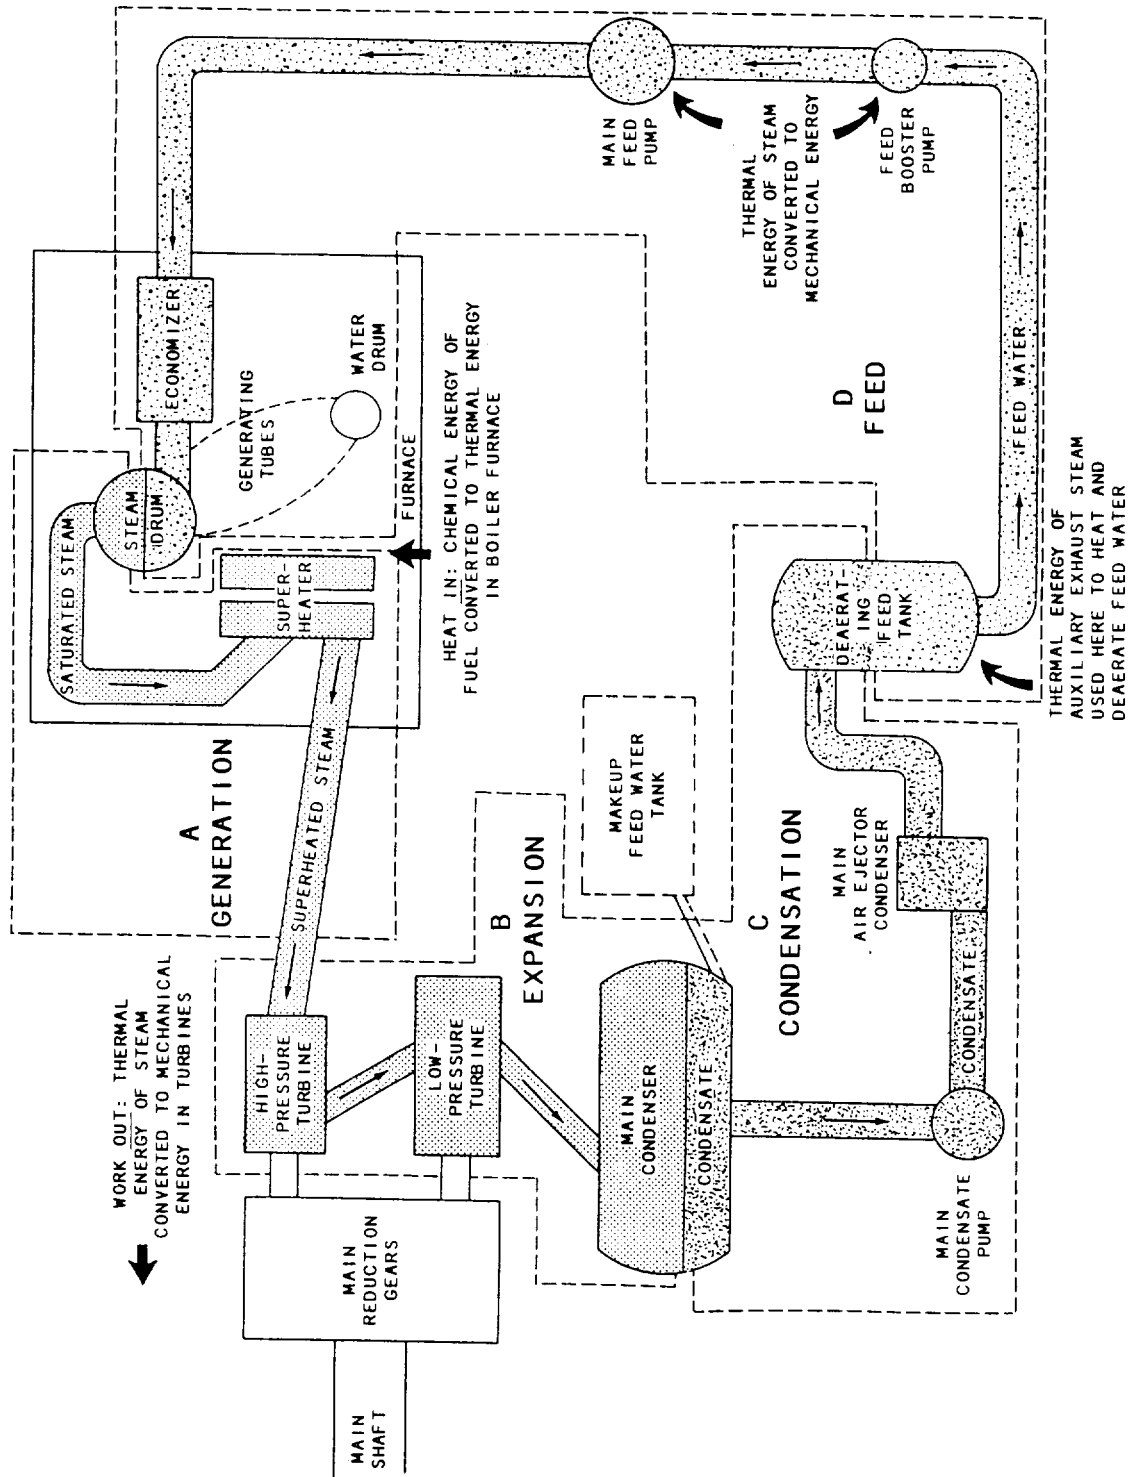

Figure 3-1.—Basic steam cycle.
The movement of a ship through the water is the result of a number of energy transformations. Although these transformations were mentioned in the last chapter, we will now discuss these transformations as they occur. Figure 3-1 shows the four major areas of operation in the basic steam cycle and the major energy transformations that take place. These areas are A—generation, B—expansion, C—condensation, and D—feed.
The following paragraphs will explain the four major areas of operation in the basic steam cycle shown in figure 3-1.
When a liquid boils, it generates a vapor. Some or all of the liquid changes its physical state from liquid to gas (or vapor). As long as the vapor is in contact with the liquid from which it is being generated, it remains at the same temperature as the boiling liquid. In this condition, the liquid and its vapors are in equilibrium contact with each other. Area A of figure 3-1 shows the **GENERATION** area of the basic steam cycle.
The main turbines usually have a high-pressure (HP) turbine and a low-pressure (LP) turbine. The steam flows into the HP turbine and on into the LP turbine. Area B of figure 3-1 shows the expansion area of the main steam system. This portion of the main steam system contains HP and LP turbines.
The components of the condensate system are (1) the main condenser, (2) the main condensate pump, (3) the main air ejector condenser, and (4) the top half of the deaerating feed tank (DFT). These components are shown in area C of figure 3-1.
The main feed pump receives the water (delivered from the booster pump) and discharges it into the main feed piping system. Area D of figure 3-1 shows the path of the water from the DFT to the economizer. The discharge pressure of the main feed pump is maintained at 100 to 150 psig above boiler operating pressure on 600-psi plants. On 1200-psi plants, it is maintained at 200 to 300 psig above boiler operating pressure. The discharge pressure is maintained throughout the main feed piping system. However, the quantity of water discharged to the economizer is controlled by a feed stop and check valve or automatic feedwater regulator valve.